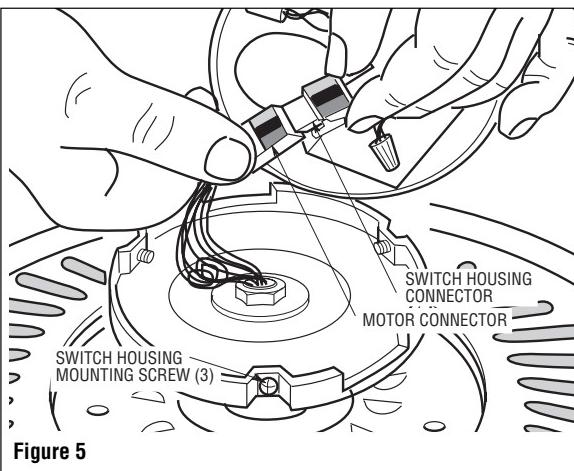
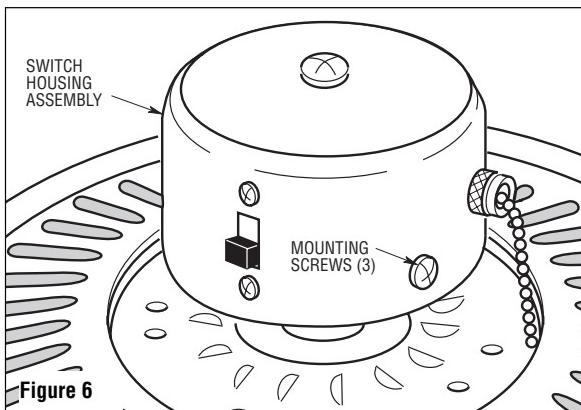

Figure 5
Figure 6
- Engage the connector of the switch housing assembly with the motor connector (Figure 5). The two connectors are keyed and color-coded and must be mated correctly (color-to-color) before they can be engaged. Make sure the connector latch closes properly.
- Remove the three switch housing mounting screws (Figure 5) from the switch housing plate. Position the switch housing assembly on the switch housing plate and align the holes in the switch housing assembly with the holes in the plate. Secure the switch housing assembly by installing the three screws (Figure 6).